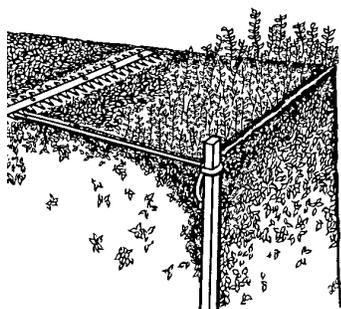

Figure 12
- If desired, you can use a string to help cut your hedge level. Decide how high you want the hedge. Then, stretch a piece of string along the hedge at this height. Trim the hedge just above this guide line of string (Fig. 12).